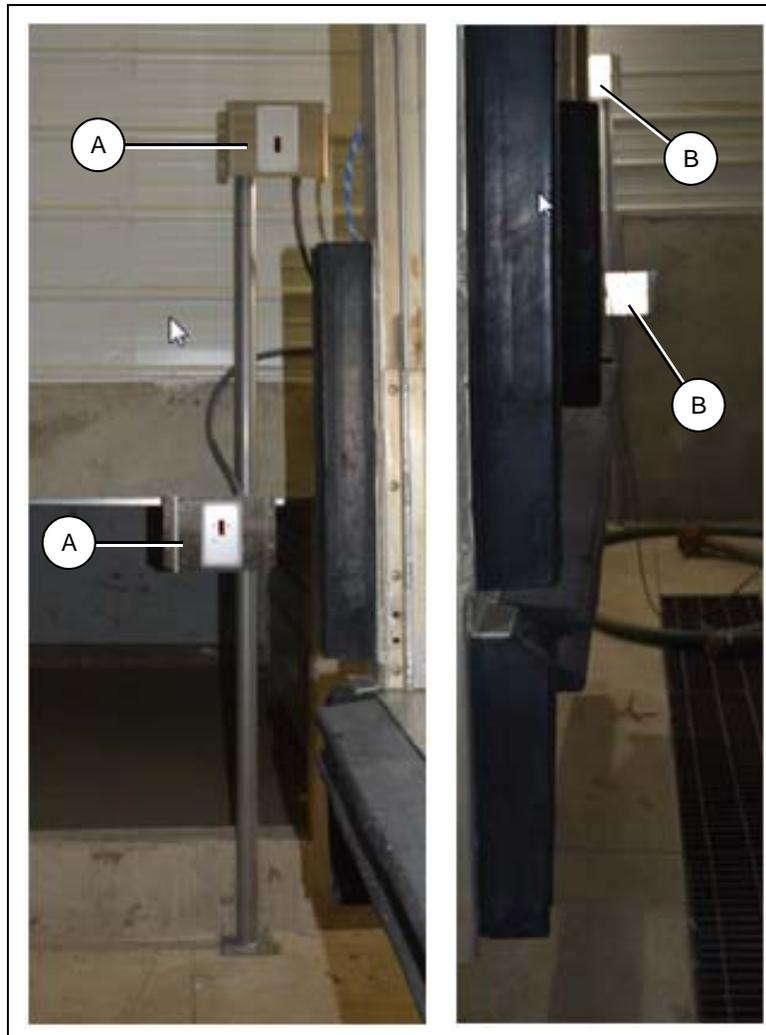

Figure 7A
2. Install the sensors (A) on the post along the wall that has the ducts.
- a. Using pipe clamps, install each sensor (A) on opposite sides of the pipe.
- c. If the duct work is blocking a sensor (A), move them up or down until they have a clear line of site to the reflectors (B) on the opposite side. *(See Figure 7A.)*